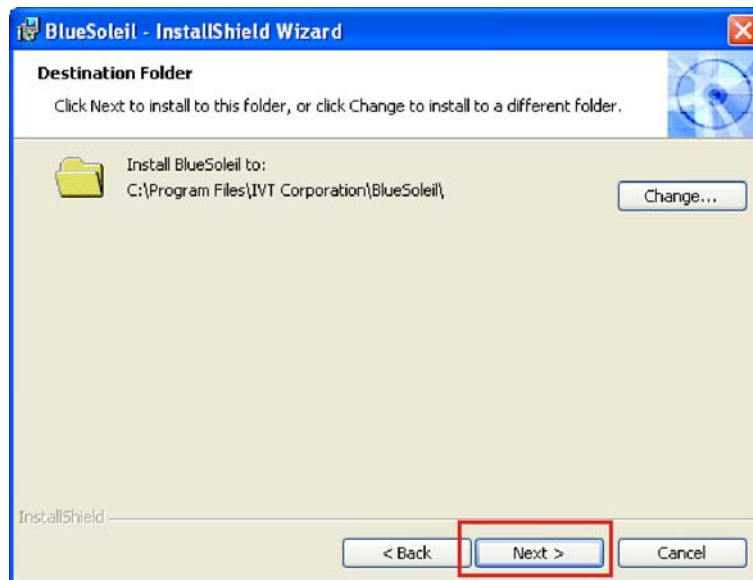

Figure 6-44: USB 2.0 InstallShield Wizard Welcome Screen
Step 14: The destination folder selection window appears (Figure 6-44).
Step 15: Set the installation directory (default recommended) (Figure 6-44).